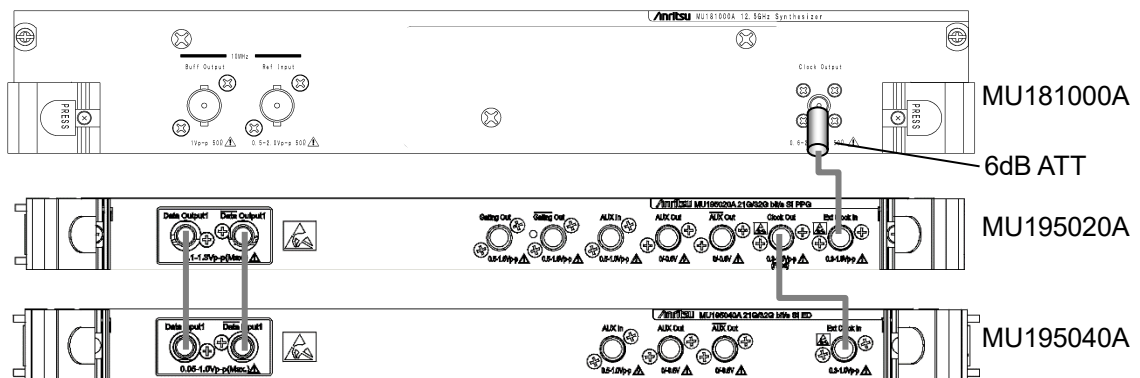

Figure 8.3.1-1 Connection Diagram for Operating Frequency Range Test
4. Connect the measuring instrument cables as shown in Figure 8.3.1-1.
6. After warming up the instruments, enable the MP1900A signal output (ON) to output signals from the MU195020A.
Refer to Figure 8.3.1-1 for the device connection.